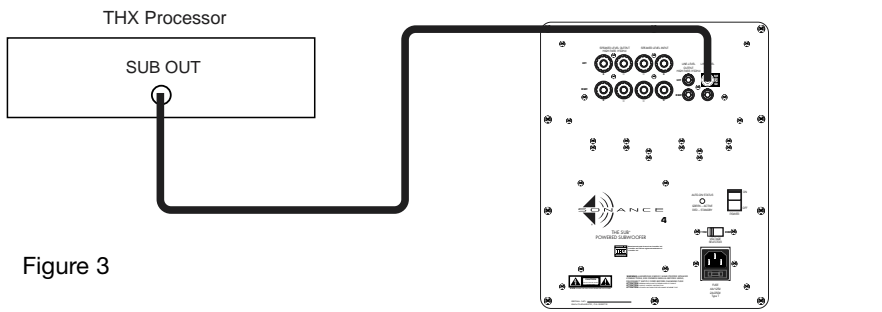

Figure 3
- A. THX, or AC-3 processor: Use the processor's line level subwoofer output. Use a single interconnect cable to the LEFT LOW-LEVEL RCA INPUT jack (Figure 3). When installing a pair of The Subs, use a Y connector at the processor to split the subwoofer signal to two interconnects, each driving the LEFT LOW LEVEL INPUT. Set mode and phase switches in the up position.